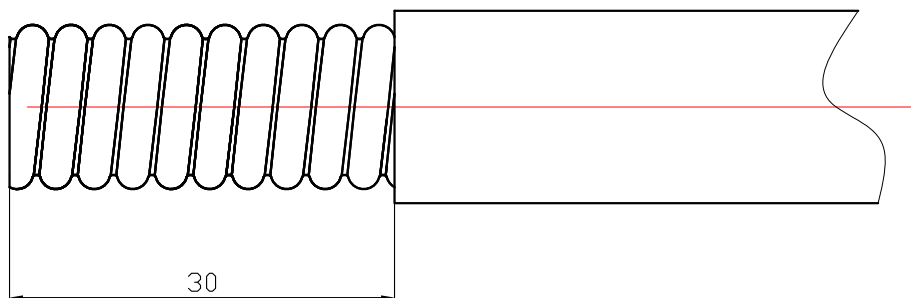

Fig. 5
2. Cable will be cut by Scissors blade, then cut the sheath, pls notice the Fig 5.